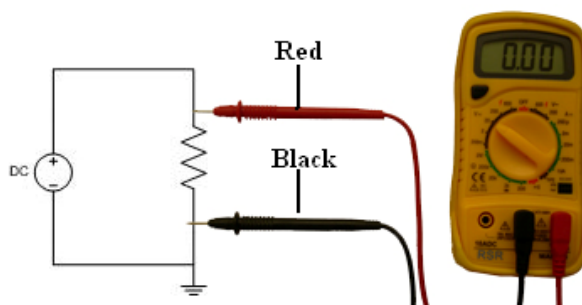

Figure 2.3: Measuring Voltage
1. To measure potential difference (voltage), the voltmeter is connected in parallel with the component. In Figure 2.3, the voltmeter is connected in parallel with a resistor.